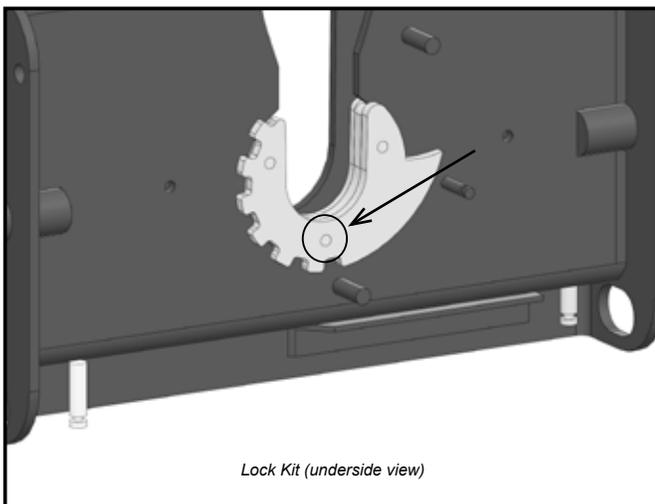

Figure 5
- Using an allen wrench (not provided), loosen the Button Head Cap Screw {J} that is located in the center section (Figure 5).